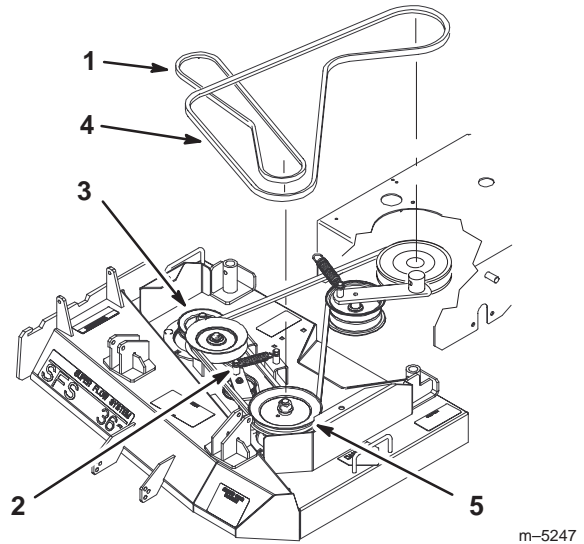

Figure 60
5. Disconnect the idler arm spring to relieve tension on the idler arm and idler pulley, then remove the worn deck belt (Fig. 60).
6. Install the new deck belt around the outward spindle pulley, the idler pulley, and in the lower groove of the double spindle pulley (Fig. 60).
7. Reconnect the idler arm spring (Fig. 60).
8. Adjust deck belt guide an 1/8 in. from belt (Fig. 60).